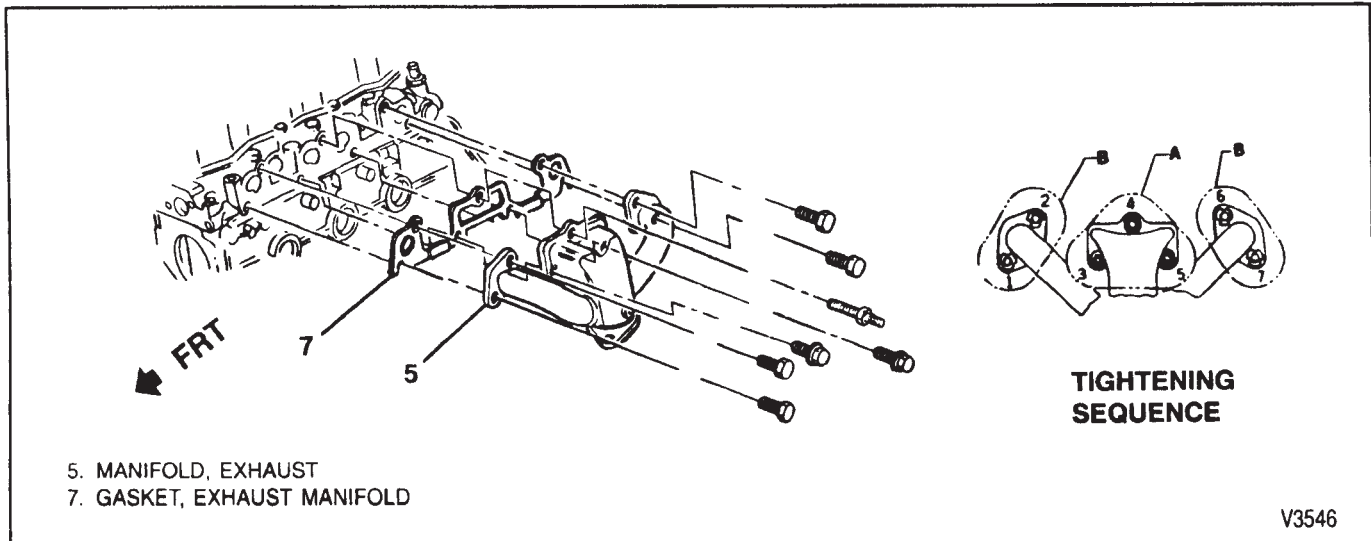

Figure 12—Exhaust Manifold and Components
### ↔ Remove or Disconnect (Figure 12)
### ↔ Install or Connect (Figure 12)
- Exhaust manifold bolts using the tightening sequence shown in figure 12.